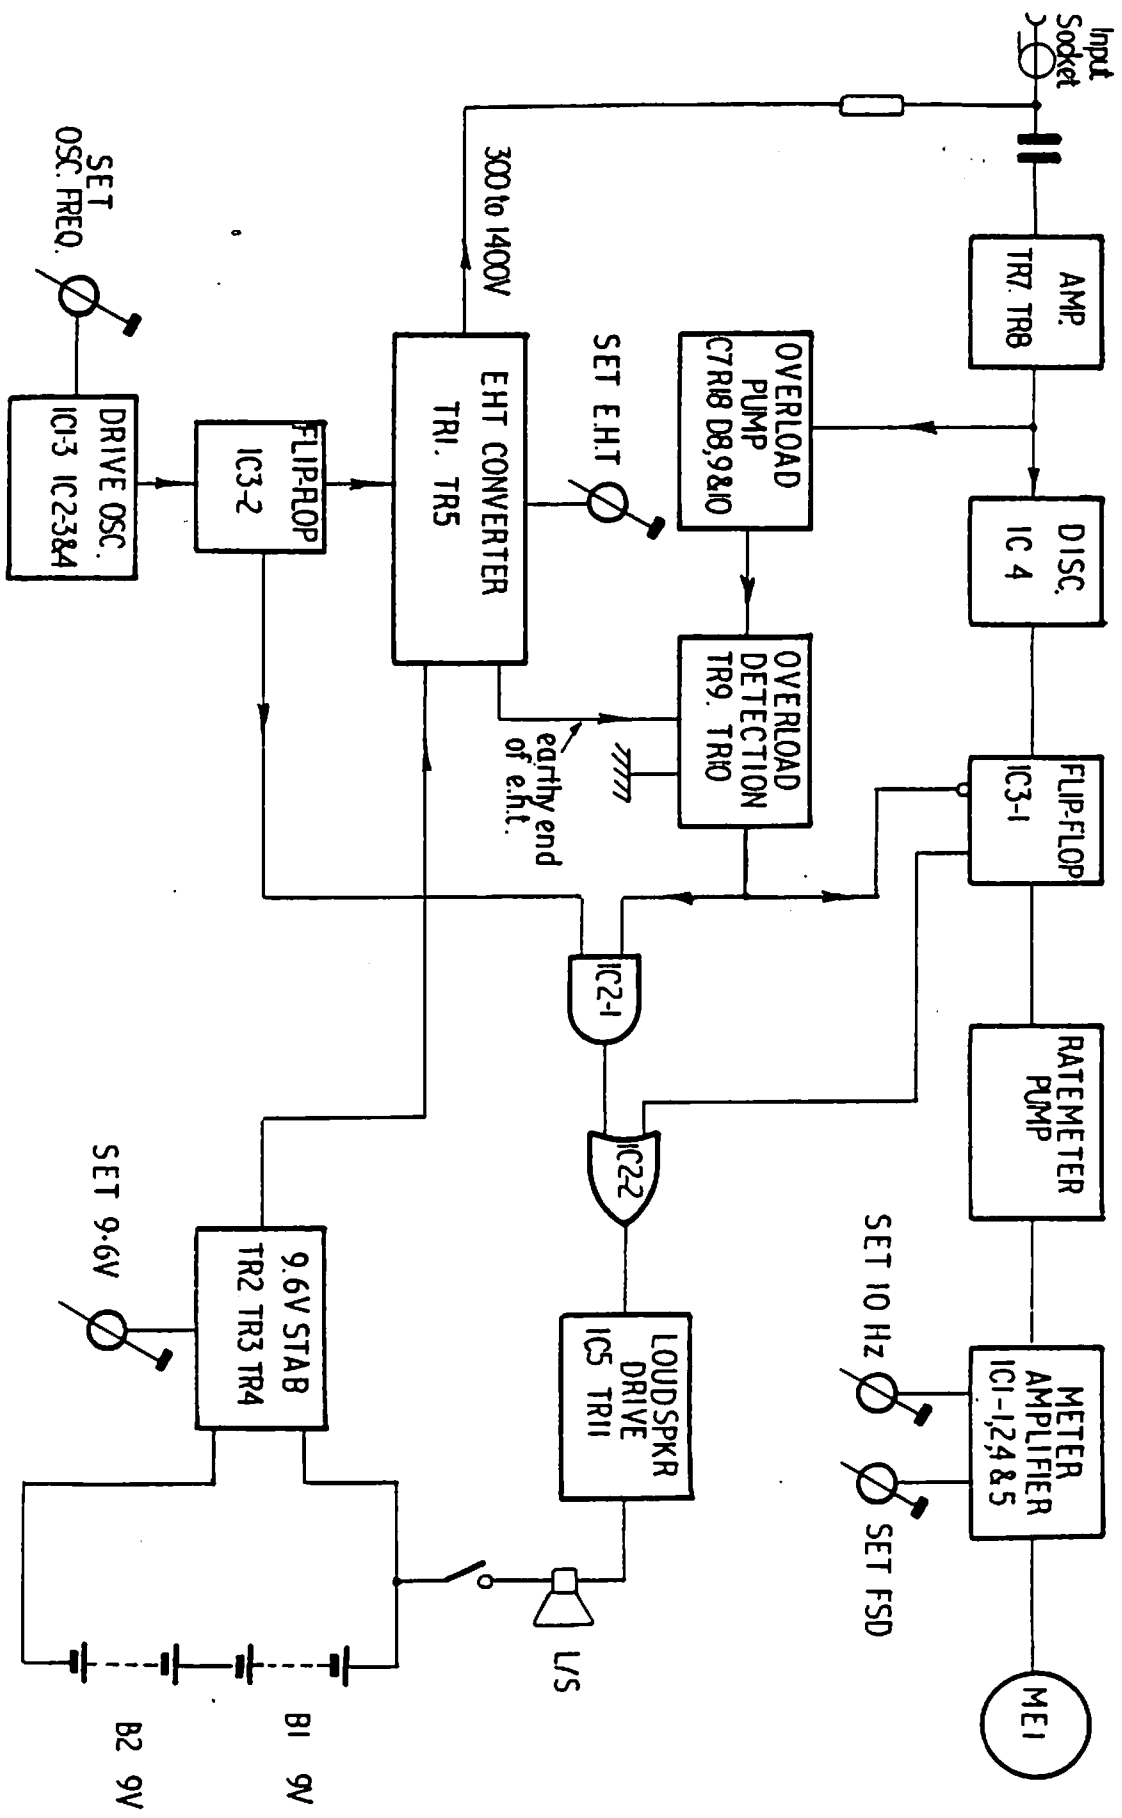

FIGURE 1
5. CIRCUIT DESCRIPTION (Refer to Figure 1)